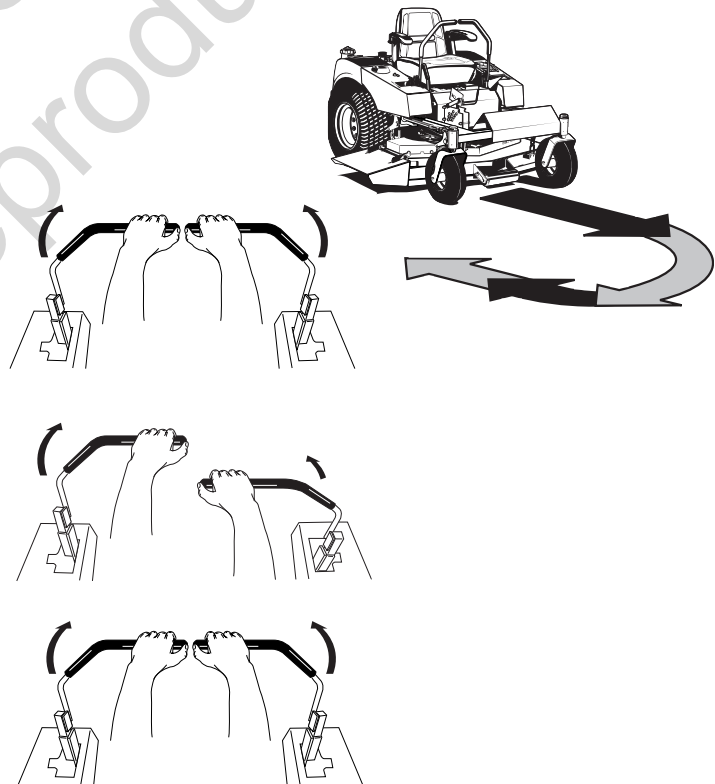

Figure 12. Executing an End-Of-Row Turn
2. Move the LEFT ground speed control lever forward slightly while moving the RIGHT ground speed control lever back to center and then slightly back from center (see Figure 12). Be sure to keep both wheels moving to avoid turf damage.